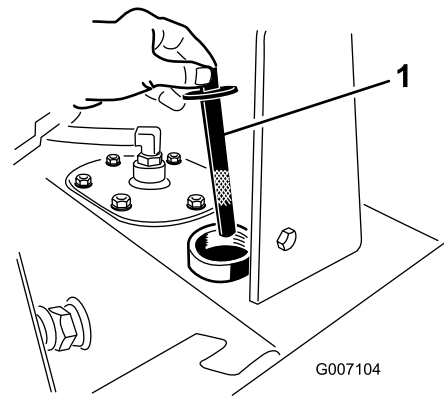
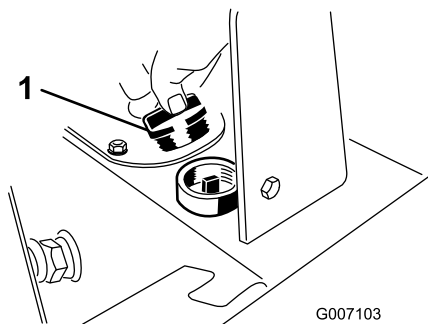

Figure 76
Figure 75
6. Remove the hydraulic tank cap and dipstick (Figure 75 and Figure 76).